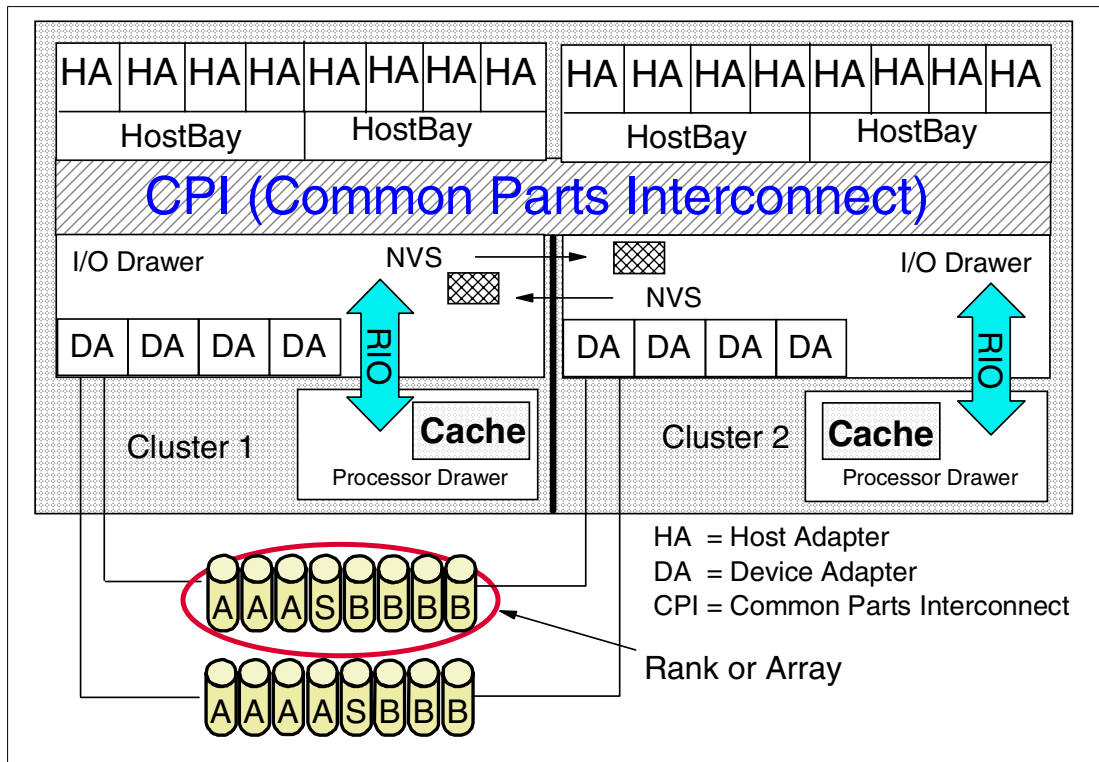

Figure 3-1 ESS Model 800 design overview
A simplified diagram of the IBM TotalStorage Enterprise Storage Server Model 800 architecture is presented in Figure 3-1. At the top we have up to 16 host adapters (HAs) in four host adapter bays (HBs). Each host adapter can have either one Fiber Channel/FICON port, or two ESCON ports, or two SCSI ports. Also, each host adapter is connected to both clusters through the Common Parts Interconnect (CPI) buses, so that either cluster can handle I/O from any host adapter. With the ESS Model 800, the bandwidth of the CPI has been doubled for a higher and faster data throughput.
Each cluster consists of a processor drawer and an I/O drawer (illustrated in Figure 2-3 on page 22). Together, the I/O drawers provide 16 PCI slots for logic cards, eight for device adapter cards (DA) and eight for NVS adapter cards (NA cards, are not detailed in the simplified diagram of Figure 3-1). Each NA card has NVS memory and a CPI bus to the host adapter. The PCI buses in the I/O drawers are connected via a Remote I/O (RIO) bridge to the processor drawer. The processor drawer of each cluster includes a SMP processor (the standard or the optional turbo feature), up to 32 GB cache (per cluster) and two mirrored SCSI drives. The I/O drawer includes the SSA device adapter cards (DA cards), IOA cards (including 1 GB NVS per cluster), the NVS batteries, and the SCSI adapter for the internal SCSI drives.